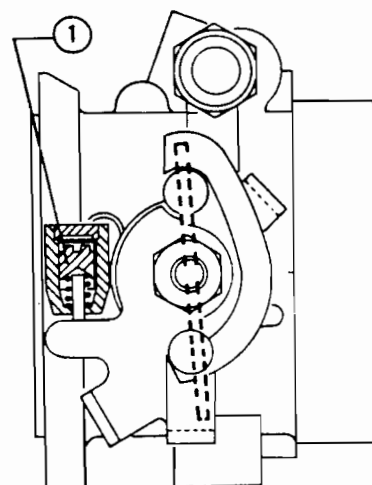

Fig. 13.15 Throttle body setting screw (1) (Sec 5)
- 99 If adjustment is required, remove the tamperproof plug and turn the screw (1 – Fig. 13.15) as necessary. Fit a new plug.